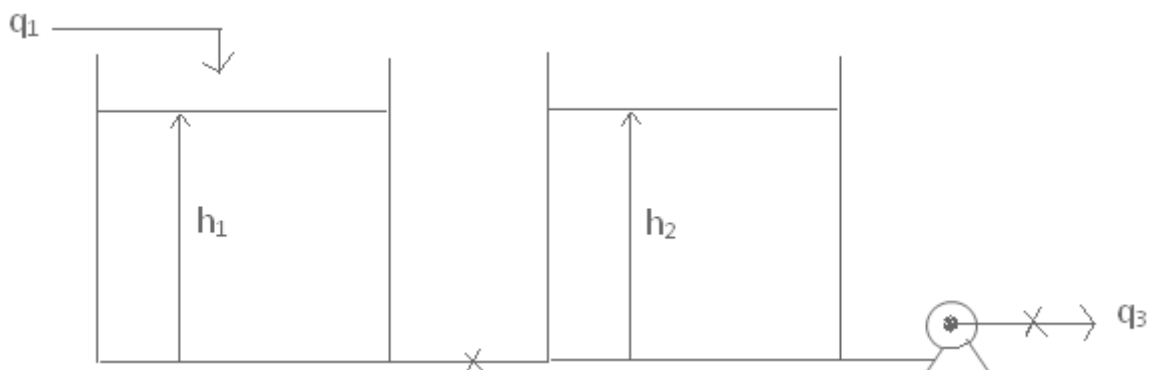

Figure 3:
7. It is desired to control level h_2 in the storage system shown below figure 3 by manipulating flow rate q_3 . Disturbance variable q_1 can be measured.